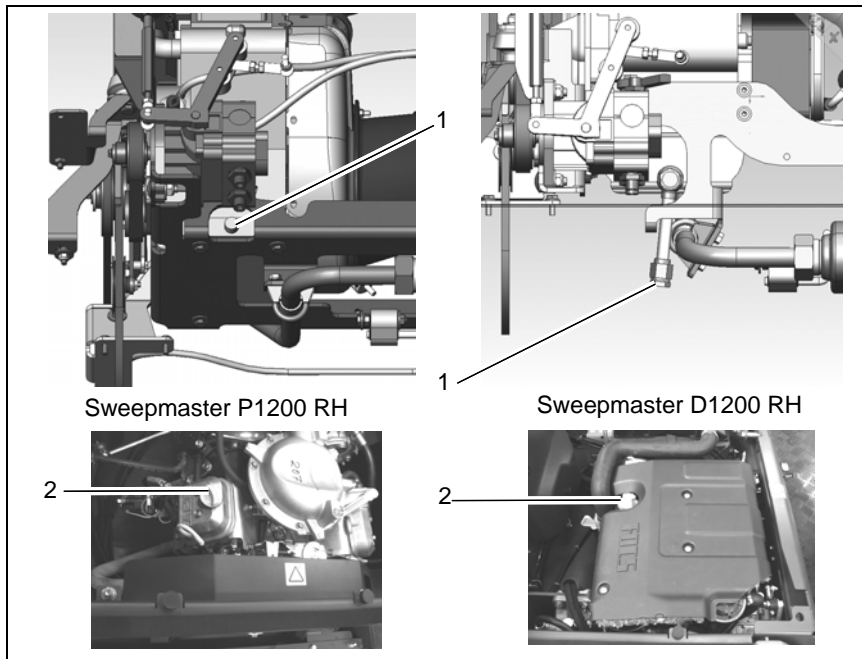

Fig.18
- Loosen and remove lock screw (Fig. 18/1), drain oil.
- Attach lock screw (Fig. 18/1) again and fill engine oil in the filling opening (Fig. 18/2) with the machine standing on level ground.